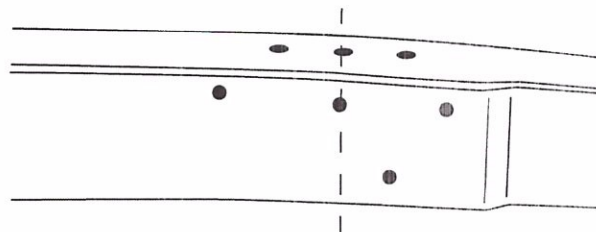

Figure 3
5. Using the center rivet hole from the old crossmember or the rear top hole from the fender bracket, mark a line around the outside of the frame rail. This is your axle centerline. (See Figure 3.)